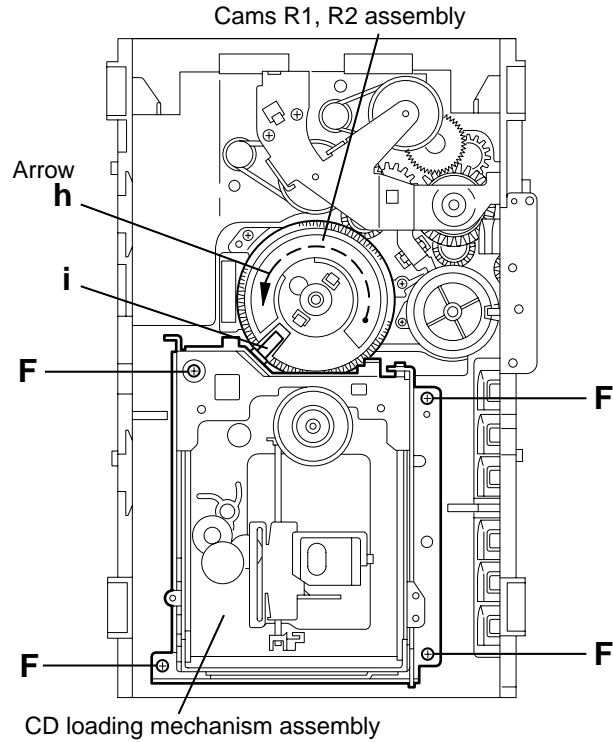

Fig.10
Removing the CD loading mechanism assembly(See Fig.10)
1. While turning the cams R1 and R2 assembly in the arrow direction **h** ,align the shaft **i** of the CD loading mechanism assembly to the position shown in Fig.10.